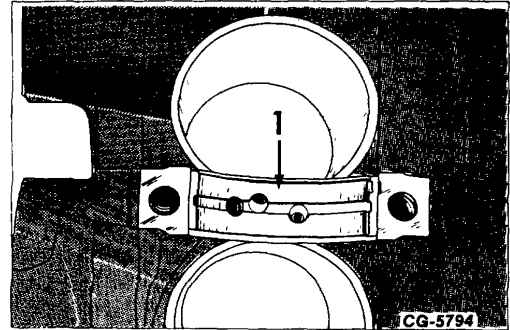

Figure 21. - Main Bearing Insert - Old Style Shown w/OFFSET Piston Oil Jet Tube Holes
- d. The top half of the main bearing insert (1, Fig. 21) is slotted to provide a flow of oil to the Jet tubes and camshaft bushings as shown.